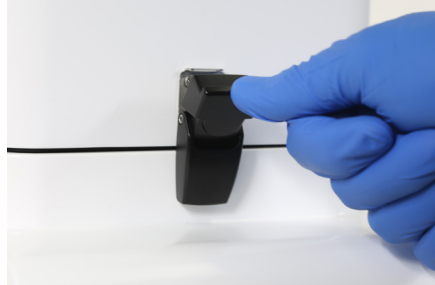

Figure 9: Lock the sample bay latch
(7) Wear thermal gloves, and slide the rack cover (Figure 9) through the center shaft. Then tighten the fasten nut. Please pay attention to the direction of the fasten nut. The larger part of the fasten nut should be facing down.